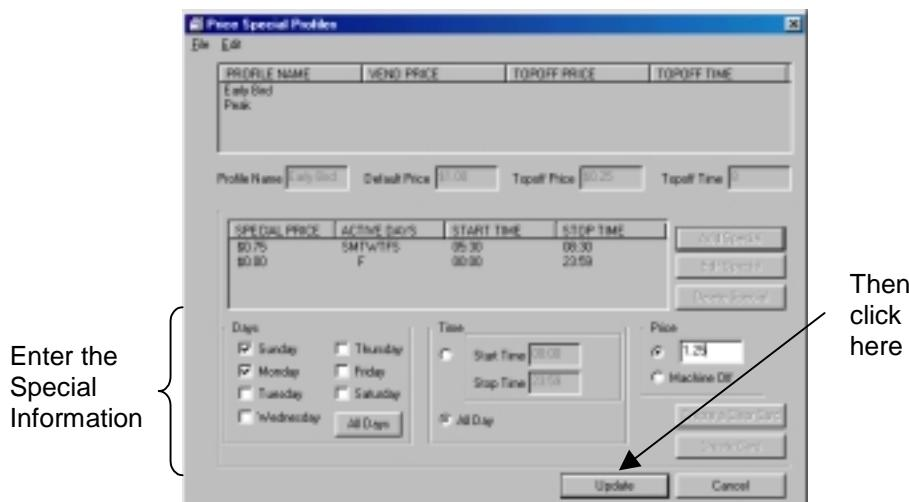

Figure 8.22 Entering the Special Information
3. Enter the Special Information (Figure 8.22):
4. Click the Update button (Figure 8.22)